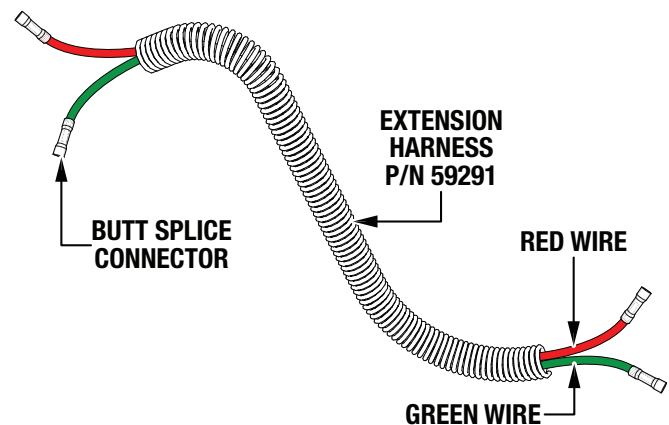

Figure 10. Wiring Extension Harness
5. The wiring extension harness (P/N 59291) contains a red wire and a green wire. There are butt splice connectors crimped onto each end of both wires. See Figure 10.